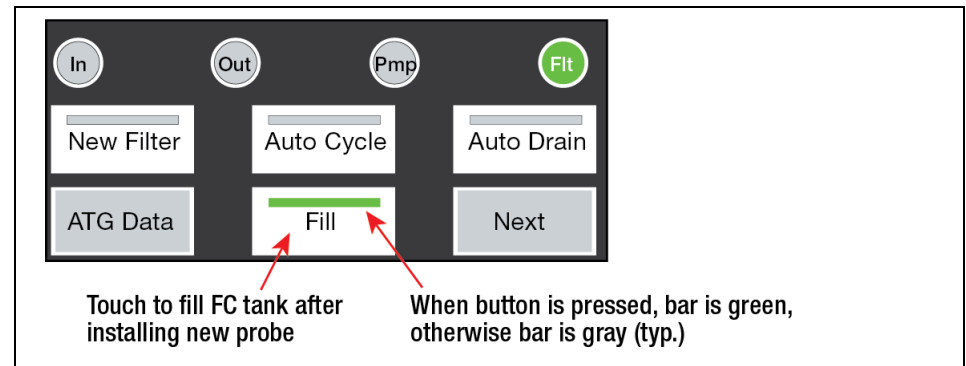

Figure 5.
20. Touch the Fill button to refill the Fuel Conditioner filter tank (see Figure 5).